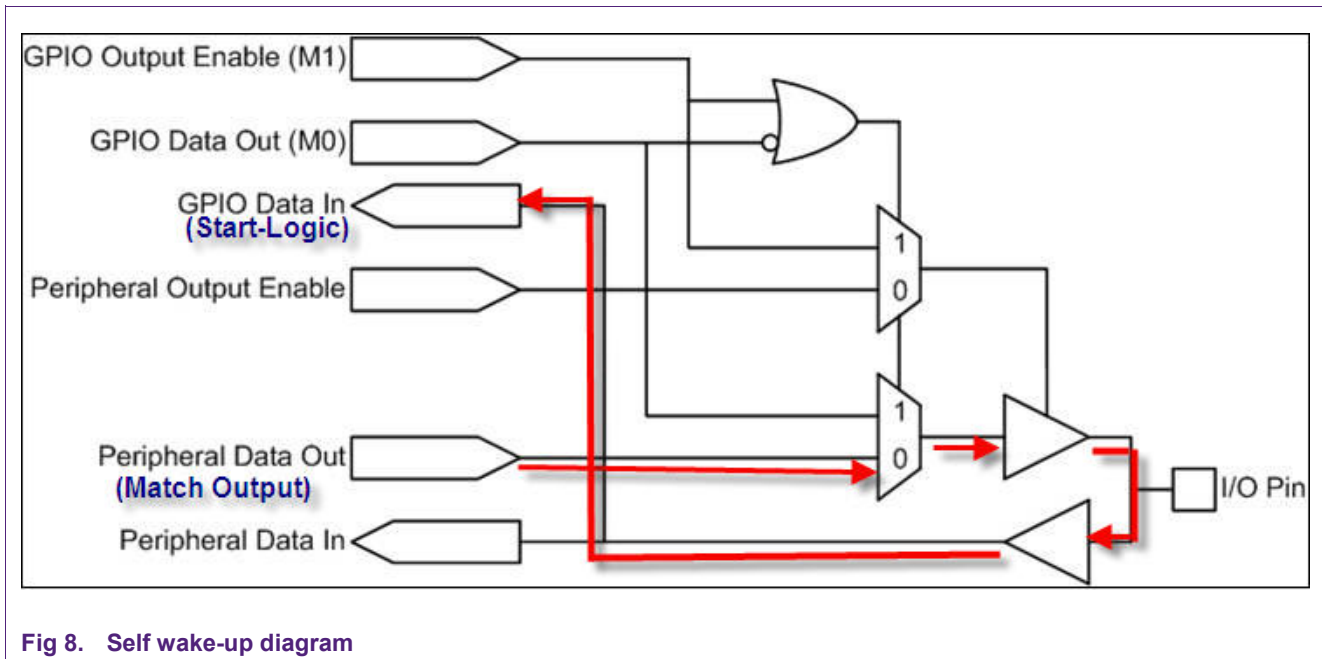

Fig 8. Self wake-up diagram
2. Input signal to the start logic created by a match event on one of the general purpose timer external match outputs. The pin holding the timer match function must be enabled as start logic input in the NVIC, the corresponding timer must be enabled in the SYSAHBCLKCTRL register, and the watchdog oscillator must be running in Deep-sleep mode (see the LPC13xx User Manual for details). This wake-up scheme will allow for the device to self wake-up when the match output is triggered. It will then feed back into the start logic causing the device to self wake-up as shown in Fig 8. No external trigger is required for this method and as a result, this reduces external components on the board. However, using this method causes the wake-up